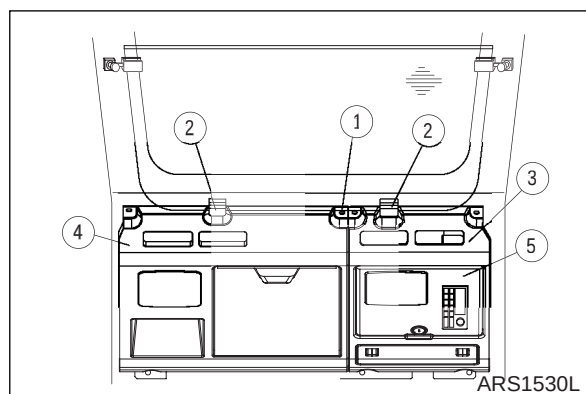
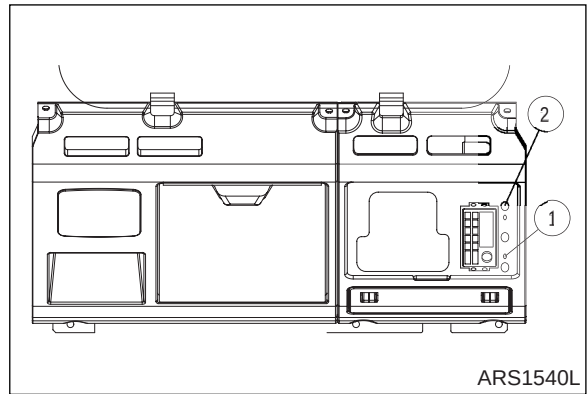

Figure 4
Figure 5
14. Remove cover (5, Figure 4) on left side dash cover (3) and bolts (1, Figure 5).
15. Remove two rubber stops (2, Figure 4) used in storing the front lower glass. Remove bolts (1) from the rear left and right dash covers. Remove left side cover (3).
16. Lift right side dash cover (4, Figure 4) and disconnect speaker wire. Remove cover.
17. Remove three bolts (2, Figure 5) after disconnect speaker wire and antenna wire. Remove stereo assembly.